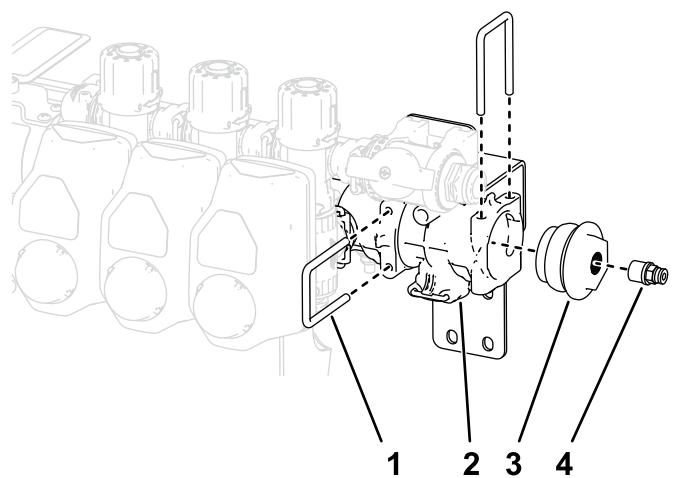

Figure 30
9. Remove the retainer that secures the fitting cap and coupler from the end of the valve section (Figure 30).